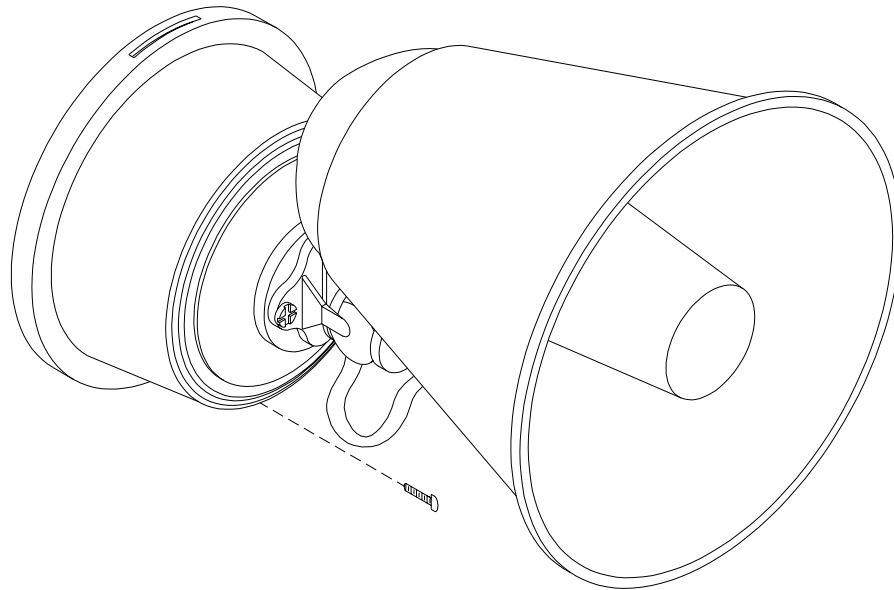

Figure 13 Horn Signal Mounting Plate Screw
11. Remove the horn signal mounting plate from the horn base by loosening the Phillips head screw on the base as seen in figure 13.